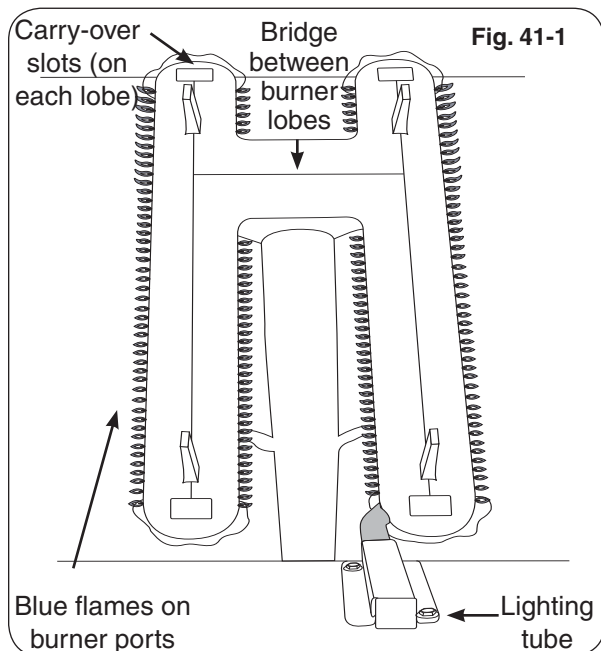

Fig. 41-1
Flames from a properly adjusted main burner with no wind or breeze present will appear fairly steady, consistent, and mostly blue. If the tip of a flame were to turn orange, it should only do so briefly and then become blue again. The flames will appear to burn while touching the burner ports (see Figure 41-1).
6. Repeat steps 1-4 until the flames appear to touch the burner ports, burning fairly steadily and mostly blue (see Fig. 41-1).